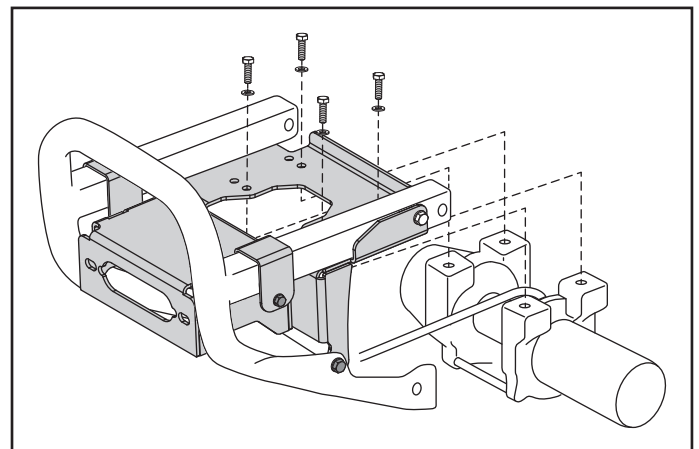

Figure 5.
5. Install your winch with the hardware included with the winch. See figures 5 and 6.